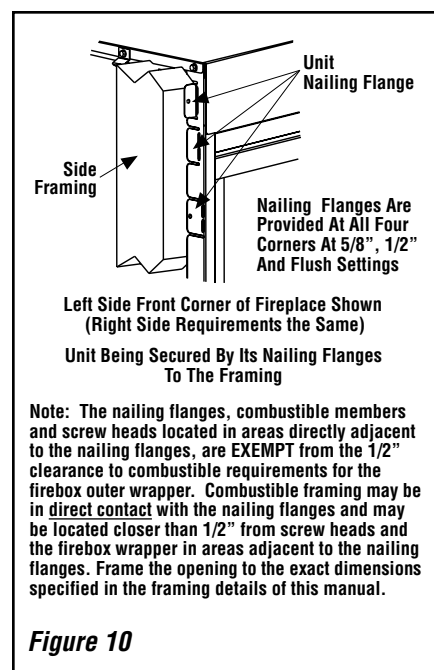

Figure 10
- Step 1.** (**Pages 10 and 11**) Construct the appliance framing. Position the appliance within the framing and secure with nailing brackets. Bend up the appropriate header spacing guides for the drywall/finish material thickness to be used (see **Figure 47 on Page 32**). Bend up the outer pair for 1/2" materials and the inner pair for 5/8" materials. Bend out the appropriate nailing flanges for the drywall/finish material to be used. Nailing flanges are provided for flush framing, 1/2 inch and 5/8 inch framing depths (see **Figure 10**).
The fireplace should be secured to the side framing members using the unit's nailing flanges - one top and bottom on each side of the fireplace front. See **Figure 10**. Use 8d nails or their equivalent.